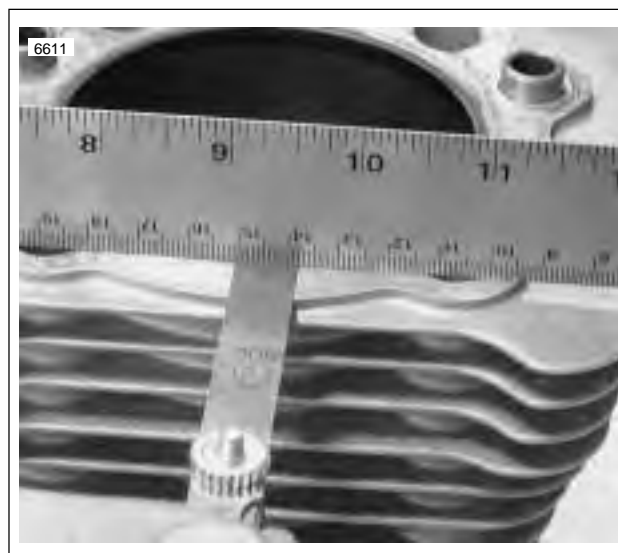

Figure 3-33. Checking Gasket Surfaces
- See Figure 3-33. Check cylinder head gasket surface for flatness.